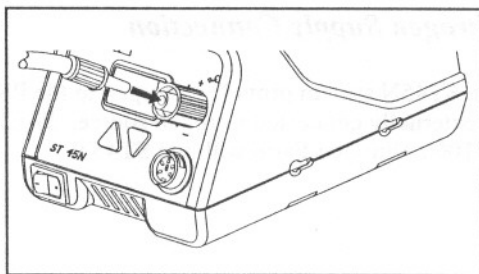

Figure 2
2. Insert the end of the quick connect hose fitting into the power source nitrogen port. (Refer to Figure 2.)